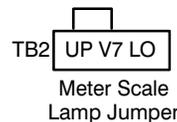

Figure 3. Generator Connections
- Route generator leads through current transformers for connection to bus bars as shown in Figure 3, according to system voltage specified in plans. Connect generator leads to bus bars as shown in Figures 2 and 3.
See Figure 3 for